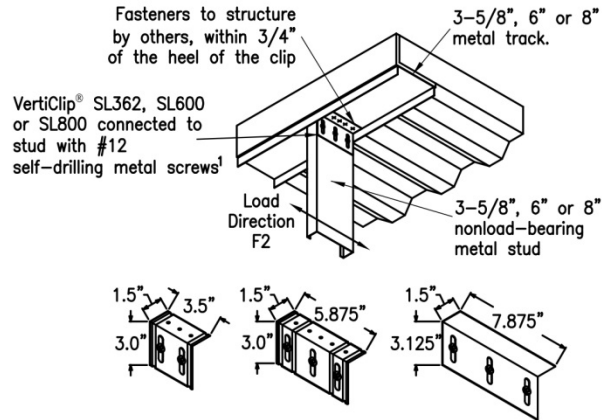

Figure 1 – VertiClip® SL362/400, SL600 and SL800
3.1.2 VertiClip® SL: VertiClip® SL362, 600 and 800 are L-shaped angles that connect $3\frac{5}{8}$, 6 and 8 inch deep (92, 152, and 203 mm) exterior curtain wall steel studs, respectively, at head of wall to the building's structural frame while allowing for a maximum of $1\frac{1}{2}$ inches (38.1 mm) of vertical movement between exterior wall elements and the primary structure. The minimum base-metal thickness of the clips is 0.0677 inch (1.7 mm). The long leg of the VertiClip SL362, SL600 and SL800 connectors, which is fastened to the curtain wall stud, has two or three vertical slots, each $\frac{3}{8}$ inch (9.5 mm) wide by $1\frac{7}{8}$ inches (47.6 mm) long. Refer to Figure 1 for overall dimensions of each VertiClip SL connector and a typical installation detail.
¹Refer to Figures 1 through 11 for direction of load.